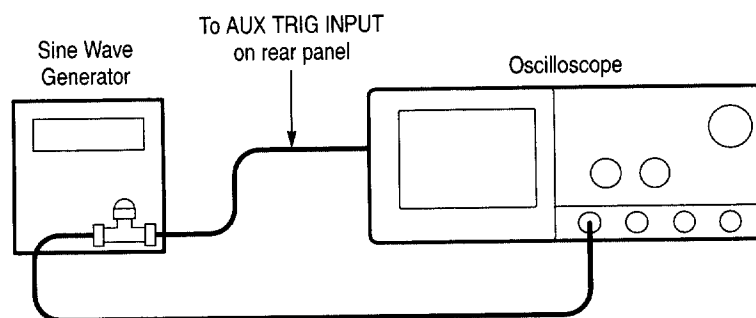

Figure 1–19: Initial test hookup
- Connect the signal output of the generator to a BNC T connector. Connect one output of the T connector to **CH 1** through a 50 Ω precision coaxial cable. Connect the other output of the T connector to the **AUX TRIG INPUT** at the rear panel. See Figure 1–19.